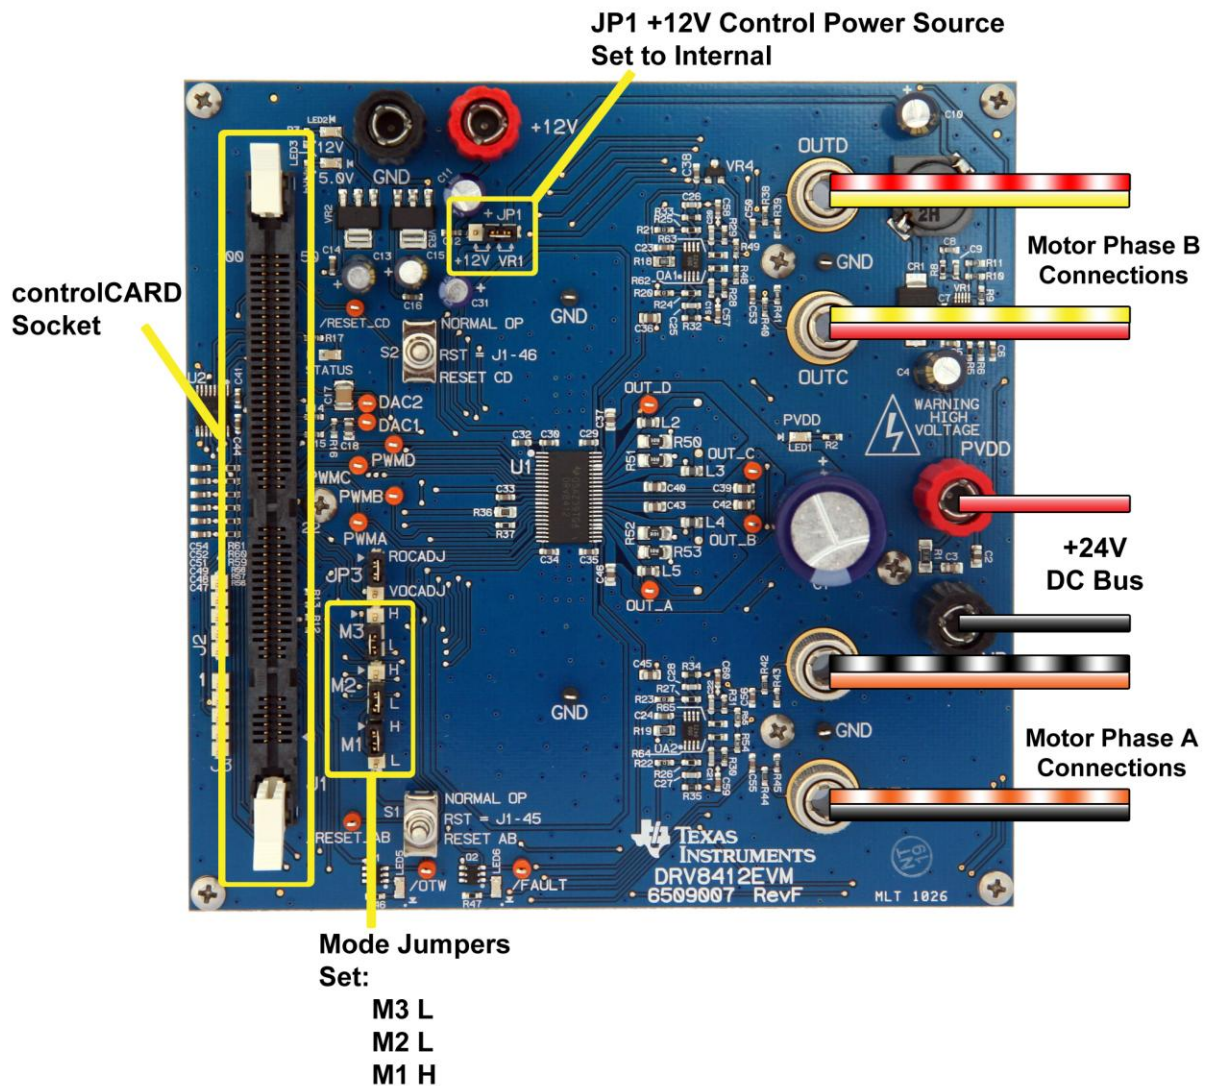

Figure 4 EVM Connections
3. Make sure DRV8412 mode jumpers and +12V source jumper are set according to Figure 4.
For reference Figure 4 shows the jumper settings and external connections that need to be made for this lab. The motor connections shown are for an Anaheim Automation 23Y106S-LW8 stepper motor wired in a parallel configuration. Note that there are two motor wires per terminal.